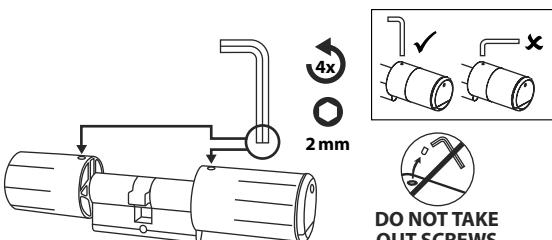

Fig. 2
- ② The loosening and fixing of the outer and inner knob is achieved by means of an integrated grub screw in the rotary knob. Loosen the two grub screws in the two knobs with the enclosed hexagonal spanner (Fig. 2).